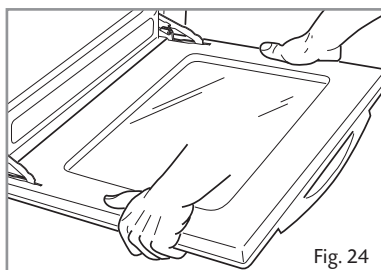

Fig. 24
- Grip the door (as indicated in figure 24) and refit it in reverse order of removing procedure.